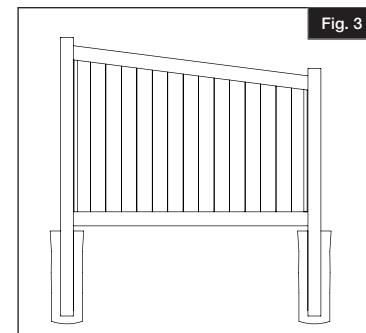

Fig. 3
7. Insert the completed fence panel into the route hole of the second fence post. Plumb and level the posts and add concrete according to manufacturer's instructions (Fig. 3).